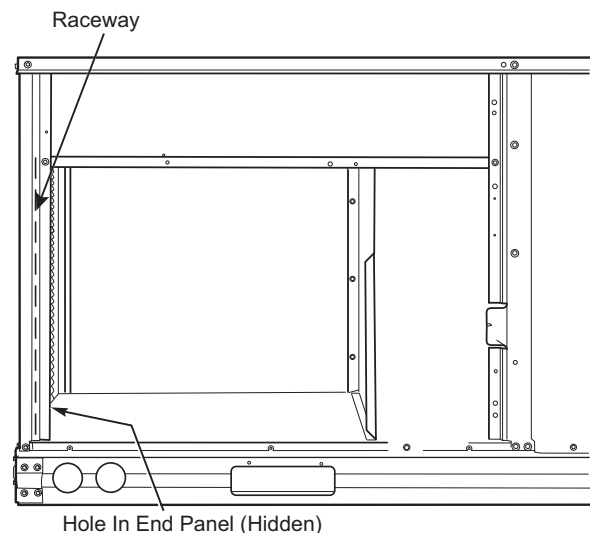

Fig. 29 — Field Control Wiring Raceway
The 50FC unit requires an external temperature control device. This device can be a thermostat (field-supplied) or a SystemVu™ controller (available as factory-installed option for use on a Carrier Comfort Network® or as a stand alone control). All field added wire must comply with UL and local NEC standards. See Unit without Thru-Base Connection Kit on page 20 and use routing path shown in Fig. 29 to help with compliance as needed.
Pass the thermostat control wires through the hole provided in the corner post; then feed the wires through the raceway built into the corner post to the control box. Pull the wires over to the terminal strip on the upper-left corner of the Unit Control Board. See Fig. 29.
2. Feed wires through the raceway built into the corner post (refer to Fig. 29) to the 24-v barrier located on the left side of the control box. The raceway provides the UL-required clearance between high-voltage and low-voltage wiring.